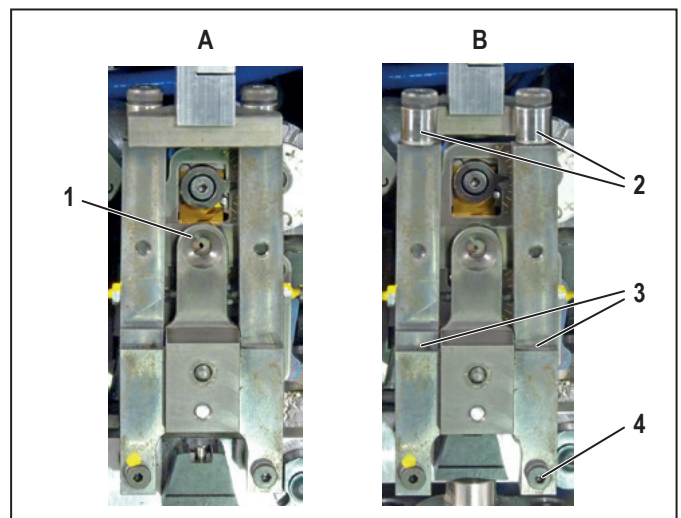

Figure 7.4 Stranded wire fixing unit in operating position (A) and pulled forward (B)
- ▶ Pull the stranded wire fixing unit forwards (Figure 7.4 , B).
- ▶ Check whether the rollers (2) are able to move freely. If necessary, lubricate the rotation points of the rollers.
- ▶ Oil the rotation points (3) of the stranded wire fixing unit.
- Ensure that the stranded wire fixing unit is located in the front position (Figure 7.4, B).
- Remove the bottom right screw of the stranded wire fixing unit (Figure 7.4, 4).